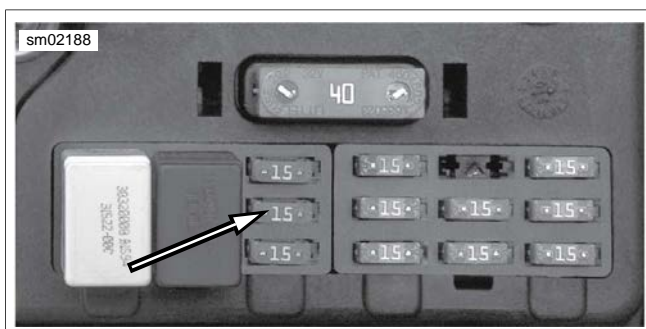

Figure 4-33. Fuel Pump Fuse
- a. See Figure 4-33. Remove the fuel pump fuse from fuse block.